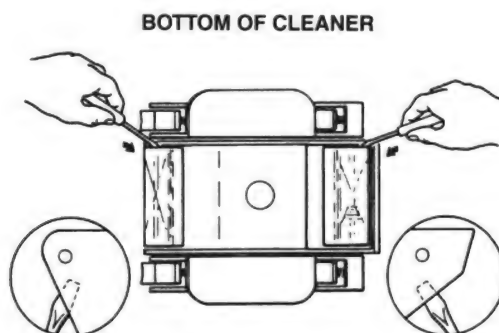

Figure 11
- a) Remove the front and rear flaps from your Navigator by inserting a small screwdriver between the flap and the lower body near the pivot point of the flaps (see Figure 11).